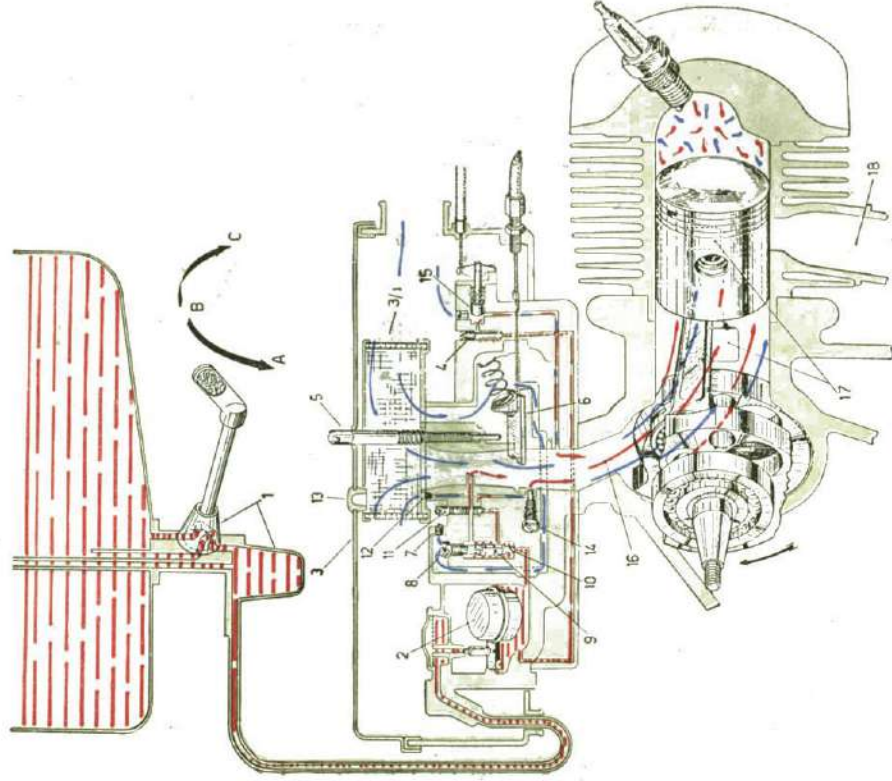

Fig. 9 - Fuel supply and distribution diagram
For adjusting the idling turn the slow running adjuster screw (on the air cleaner cover) (Fig. 9, n. 5).
- On the air cleaner case, opposite to said screw, is a plugged hole. When this plug is removed the spring loaded idler adjusting screw is accessible (Fig. 9, n. 14).